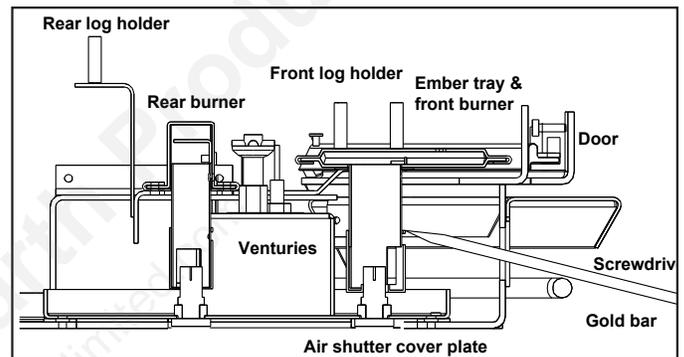

Figure 5: Venturi Adjustment.
- There is a separate venturies for each burner, see Figure 5.